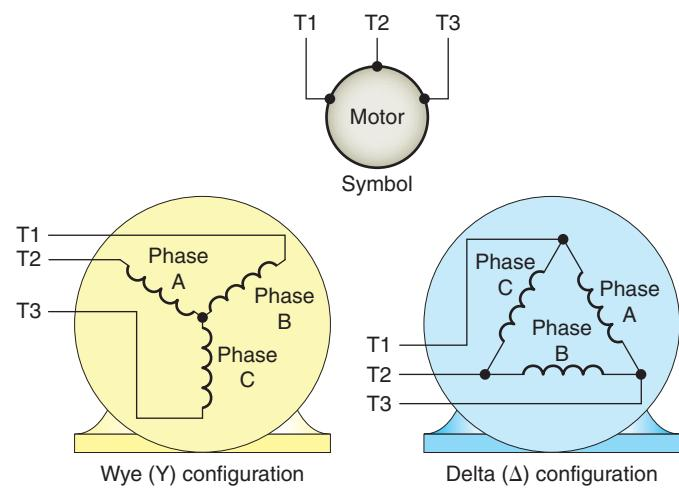

Figure 2-33 Three-phase wye and delta motor connections.
Large horsepower AC motors are usually three-phase. All three-phase motors are constructed internally with a number of individually wound coils. Regardless of how many individual coils there are, the individual coils will always be wired together (series or parallel) to produce three distinct windings, which are referred to as phase A, phase B, and phase C. All three-phase motors are wired so that the phases are connected in either **wye** (Y) or **delta** (Δ) configuration, as illustrated in Figure 2-33.